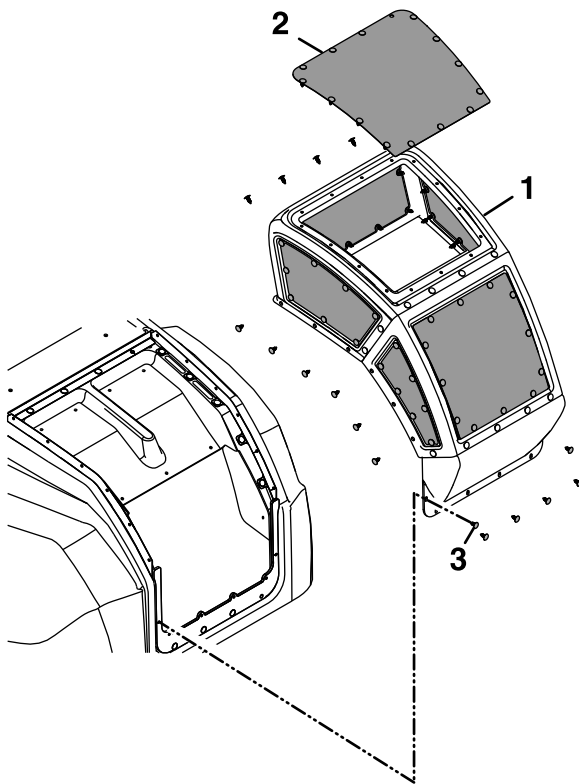

Figure 6
6. Assemble the intake screens onto the hood intake frames using the plastic plugs as shown in Figure 6.